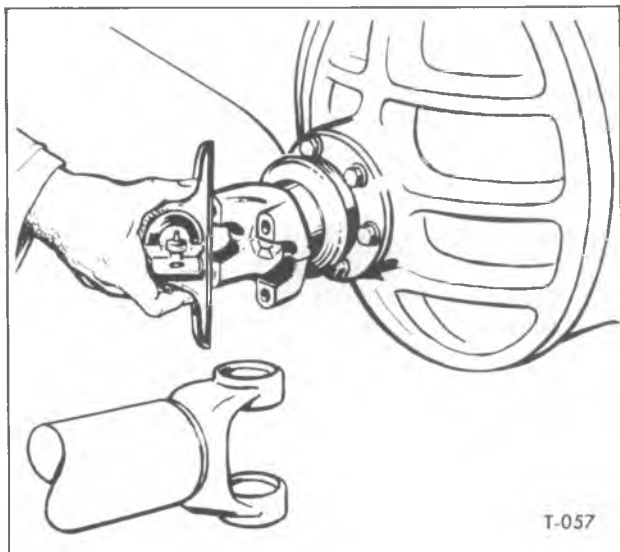

Figure 6—Checking Pinion Angles
7. On rear axles that do not have a machined surface on the differential carrier housing it will be necessary to remove the inter-axle shaft. Rotate the rear pinion yoke on the forward rear axle into a vertical position. Clean the four machined ends of the yoke of dirt, nicks, and burrs. Place the protractor across ends of the yoke on either side in as close as possible to a vertical position as shown in figure 6 and read the angle. Pinion angle should be the same as the engine and auxiliary transmission angles. Adjustment can be made, if necessary, by using shims at upper torque rod mountings.
described in Step 6 and as shown in View F, figure 5, on rear axles which have a machined surface on the differential carrier housing. On rear axles not having a machined surface on the differential carrier housing, check rearward rear axle pinion angle as described in Step 7 and shown in figure 6.